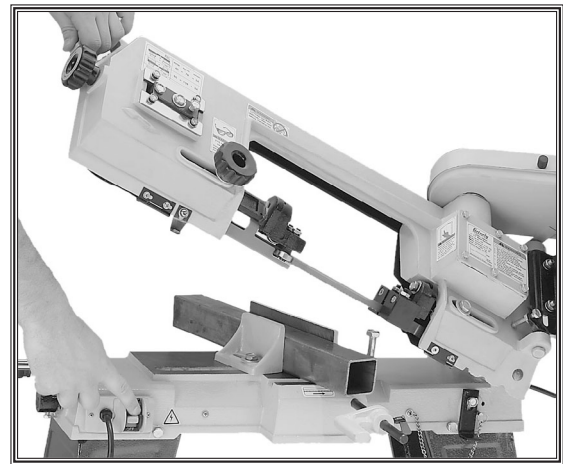

Figure 21. Proper bandsaw horizontal starting position.
- Allow the blade reach full speed before engaging the workpiece. Never start a cut with the blade in contact with the workpiece (see **Figure 21**).